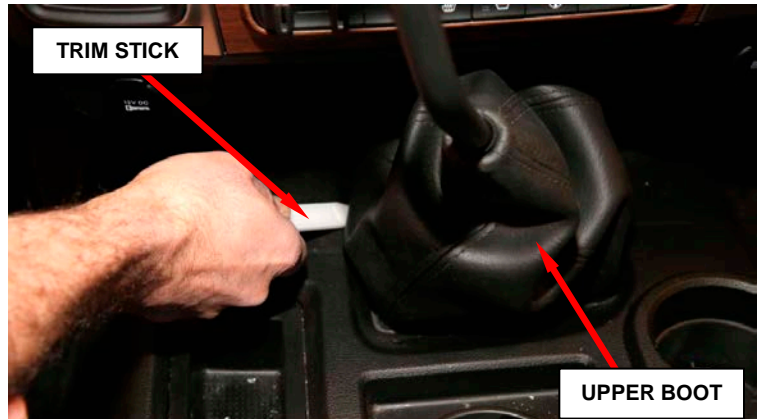

Figure 4 – Gearshift Lever Boot
4. Using trim stick C-4755 or equivalent, moderately pry on lower front edge of gearshift lever upper boot until the front of the boot is released from the center console (Figure 4).